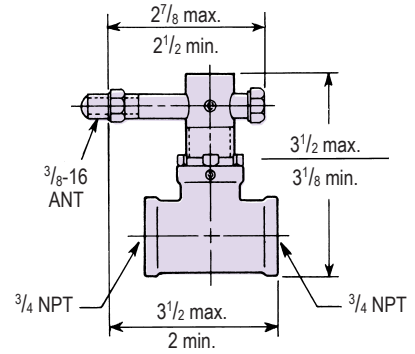

Fig. 1. Part number 3-2156-1, used with "H" adapters for 4682 Burners Complete.
① Adapters do not include detectors--order separately.
② Use only C7035A UV with 8837-F or -G Adapter because of ambient temperature considerations. Adapter includes Honeywell Heat Block.
③ Or Series R. Also, R can be used in place of any A or B.
④ If flame supervision is mounted, Sensitrol™ Oil Valve cannot be close-connected because of interference with handle.
⑤ See Sheet 4343-3 for TwinBed® II flame detector assemblies.
⑥ Requires modified version of adapter shown in Fig 1, page 3. Use adapter 4-6153-1
| 8832-H | 3/8-16 ANT | | 3 7/8" | See Fig. 1 | None |
| 8833-H | 3/8-16 ANT | | 5 1/8" | See Fig. 1 | None |
| 8835-H | 3/8-16 ANT | | 7 1/8" | See Fig. 1 | |
| 8836-H | 3/8-16 ANT | | 6 1/8" | See Fig. 1 | |